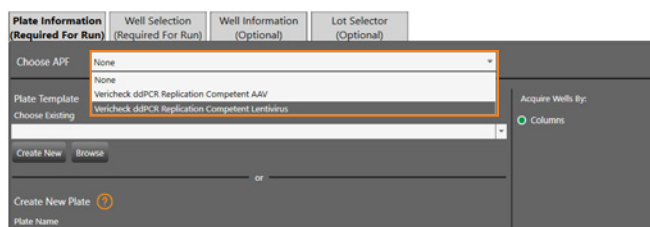

Fig. 7. Selecting an APF for use.
3. In the Choose APF dropdown menu, select the Vericheck ddPCR Replication Competent Lentivirus APF (Figure 7).